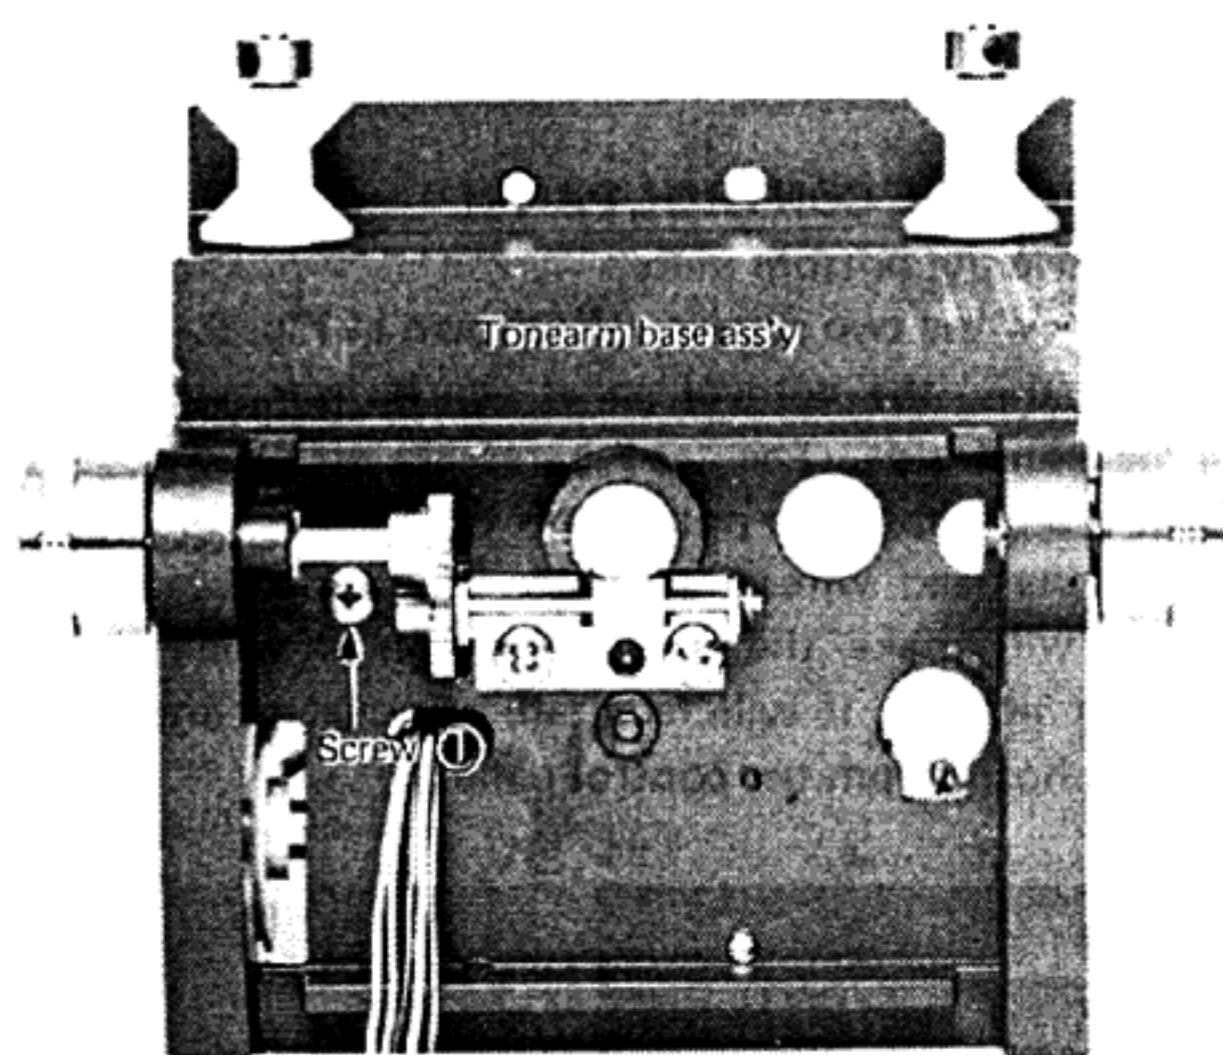

Fig. 6
- 5) The vertical drive motor can now be removed by removing screws (I) shown in Fig. 6.